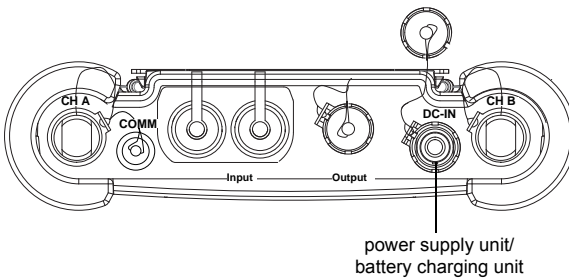

Fig. 7.8: Connections of the transmitter FLUXUS F608
- Connect the power supply unit to the transmitter (see Fig. 7.8).